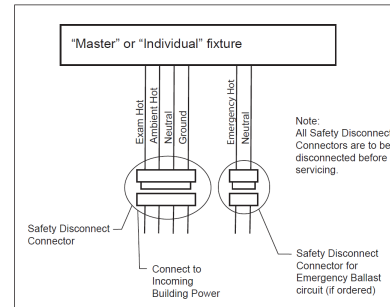

Figure 1
- \* For 277V installations, disconnect the orange safety disconnect plug(s) (located in the wireway compartment) to fully disconnect power to the fixture before servicing. (See Figure 1)